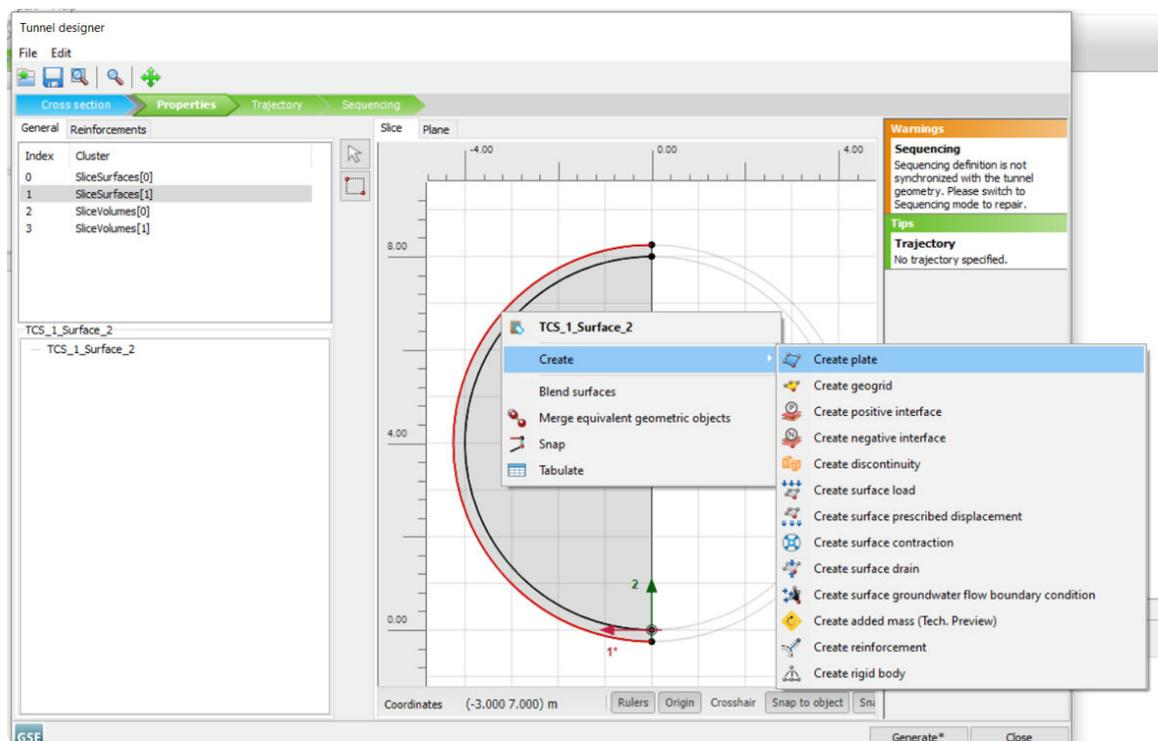

Figure 64: The Properties tabsheet of the Tunnel designer for the creation of a Plate
- In the cross section inside the **Slice** tab, right-click on the outer surface and from the appearing menu select **Create > Create plate** (see Figure 64 (on page 89)).